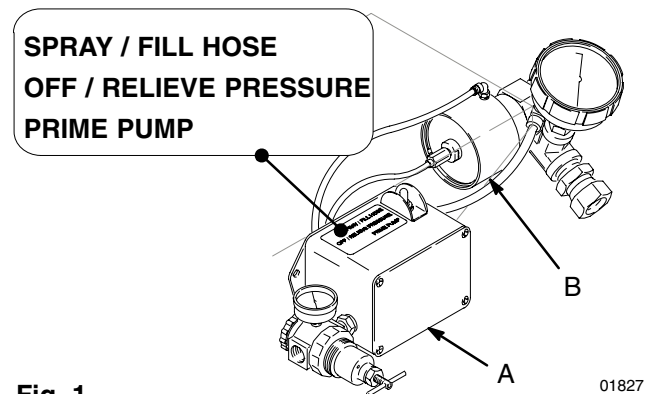

Fig. 1 01827
The Easy Spray Control (A) has a quick shut off and pressure relief feature so you get a soft start each time you trigger the gun, instead of a blast of unatomized material. See Fig. 1. The control has three modes:
The pressure drain valve (B) automatically relieves system pressure when you release the gun trigger and the valve also stops the pump. See Fig. 1.